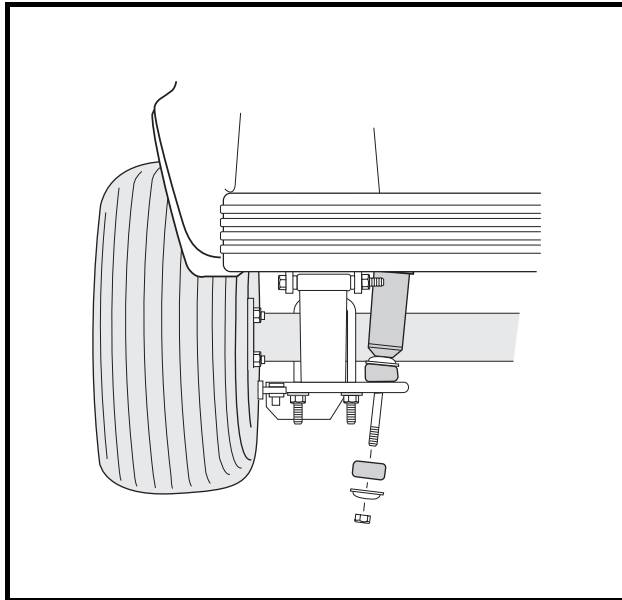

Figure 16-20 Shock Absorbers
6. Remove the lower shock mounting hardware from both rear shocks (**Figure 16-20, Page 16-11**).